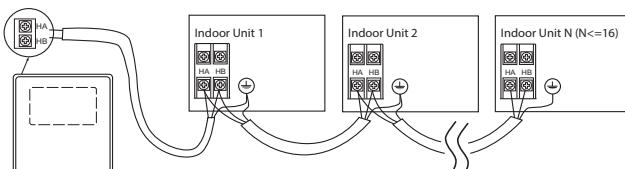

**Fig. 4 — Mounting Back Plate**
7. Attach the back mounting plate directly over the opening in the wall, using 3 screws, as shown in Fig. 4.